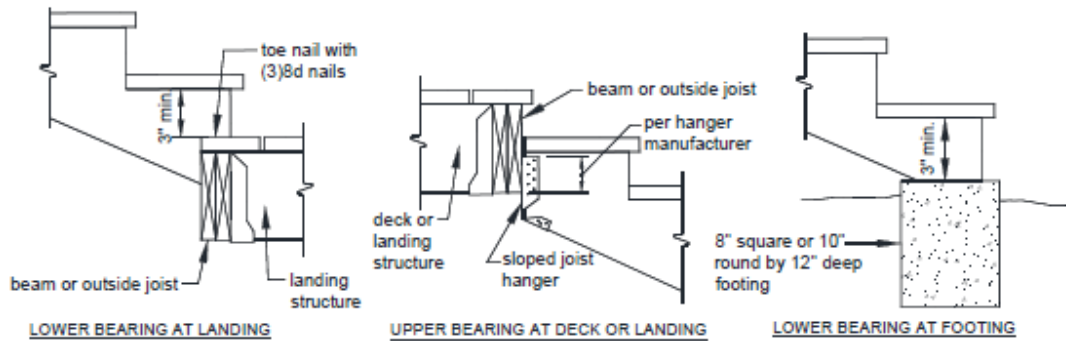

FIGURE 38: STRINGER BEARING
- Stair geometry and opening limitations shall meet the requirements shown in FIGURE 38. Treads, risers and nosing dimensions shall not deviate at each step by more than ⅜ inches.